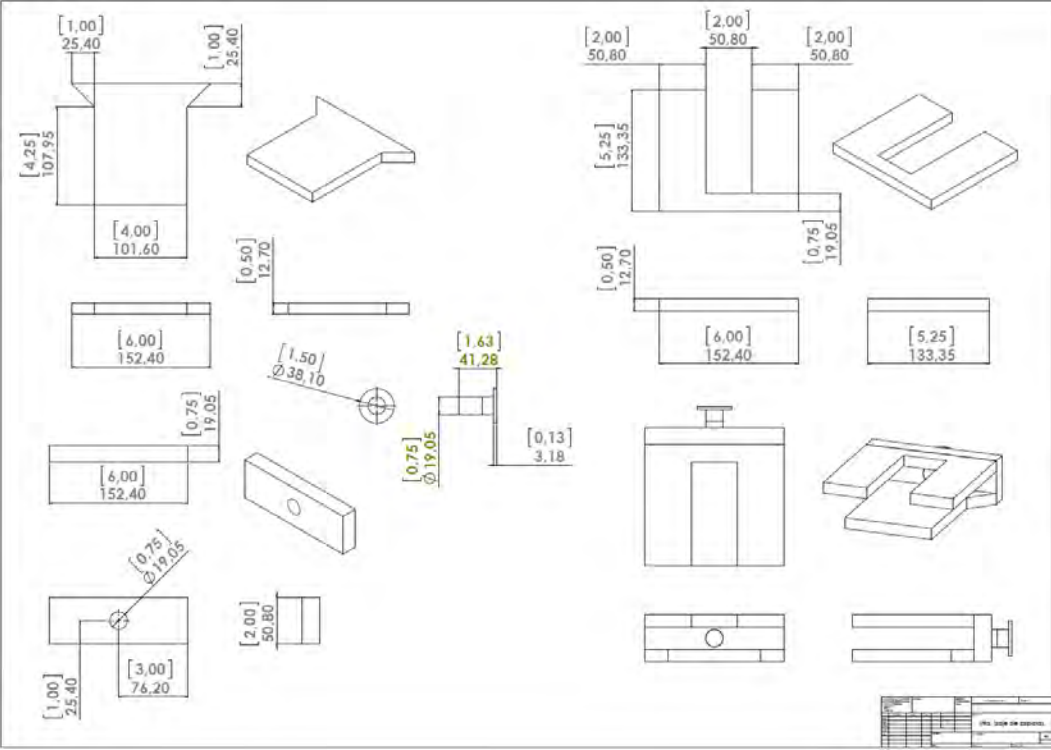

Fig. 7A Tool Design drawings
- Design drawings (See Fig. 7A; 7B; 7C)